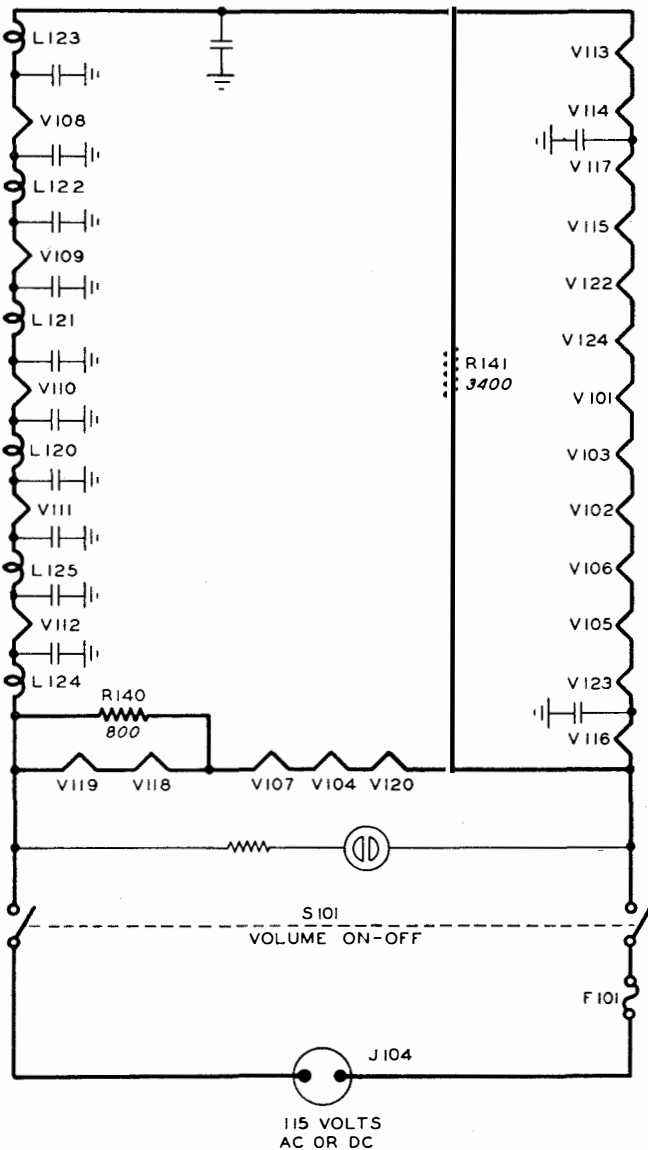

Figure 4-3—Heater Circuits
(1) PRIMARY POWER CIRCUITS. (See figure 4-3.) — This equipment has been designed to operate from either a 115 volt DC or a 115 volt single phase 50/60 cps power source. The vacuum tubes used are of the 6.3, 25 and 28 volt heater types. The 28 volt heaters of V104, V107 and V120 are connected in series with the 25 volt heaters of V118 and V119 across the 115 volt power input. A resistor, R140, is connected in parallel with the heaters of V118 and V119. This parallel path for the current flow is necessary because the heaters of V118 and V119 have a higher resistance and require less current